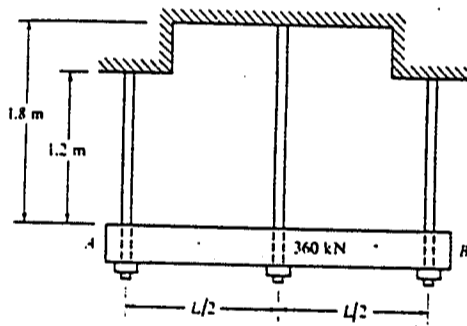

Fig. 1.
- Each vertical bar in the apparatus shown in the Fig. 1 is made of steel and has cross-sectional area 1200 mm^2 . Find the tensile stress σ in the middle bar if the rigid plate AB weighs 360 kN . (20%)